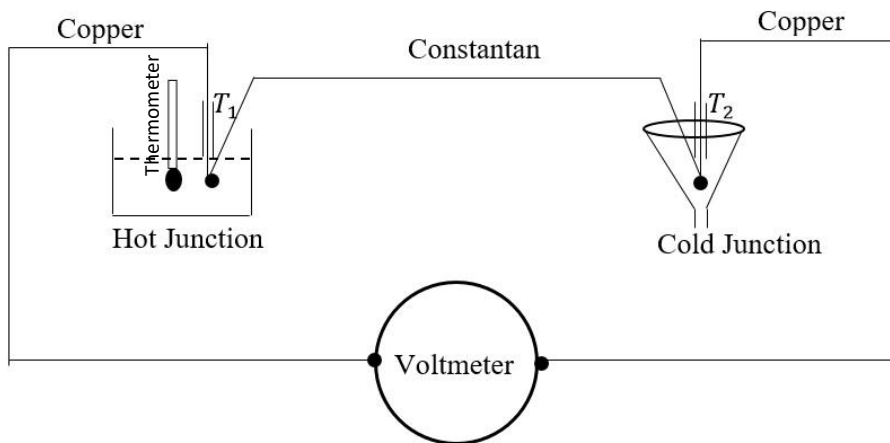

Figure 1
- **Construction of thermo-couple:** A copper(Cu)-constantan(Cn) couple is employed for this experiment. To prepare this couple, three pieces of wires, each of one meter long are taken, of which one is of Cn, while the other two are of copper. The two ends of Cn wire are cleaned and are joined by twisting with one end of each of the copper wires. Then these junctions are soldered with minimum amount of solder covering a length of about 2-3 mm of each junction. Two glass tubes T_1 and T_2 (figure below, Fig. 1) are introduced in the copper wires to be sure that the metals touch at the junctions only.
Ice is poured in the funnel (see Fig. 1) to cool the right hand junction to 0°C . The left hand junction is dipped inside a pot filled with water. The water temperature can be varied using a heater controllably and the corresponding temperature should be measured using a thermometer placed near the junction inside the water (see the figure). To measure the thermo-e.m.f a voltmeter (that can measure millivolt) is used.